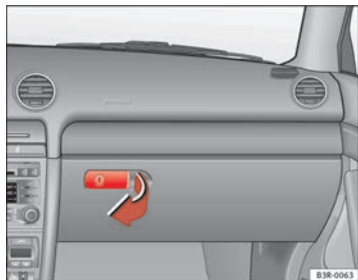

Fig. 137 Glove compartment
- Pull the handle on the lid in the direction indicated (arrow) ⇒ fig. 137 and open the lid.
- Open the glove compartment ⇒ fig. 137.